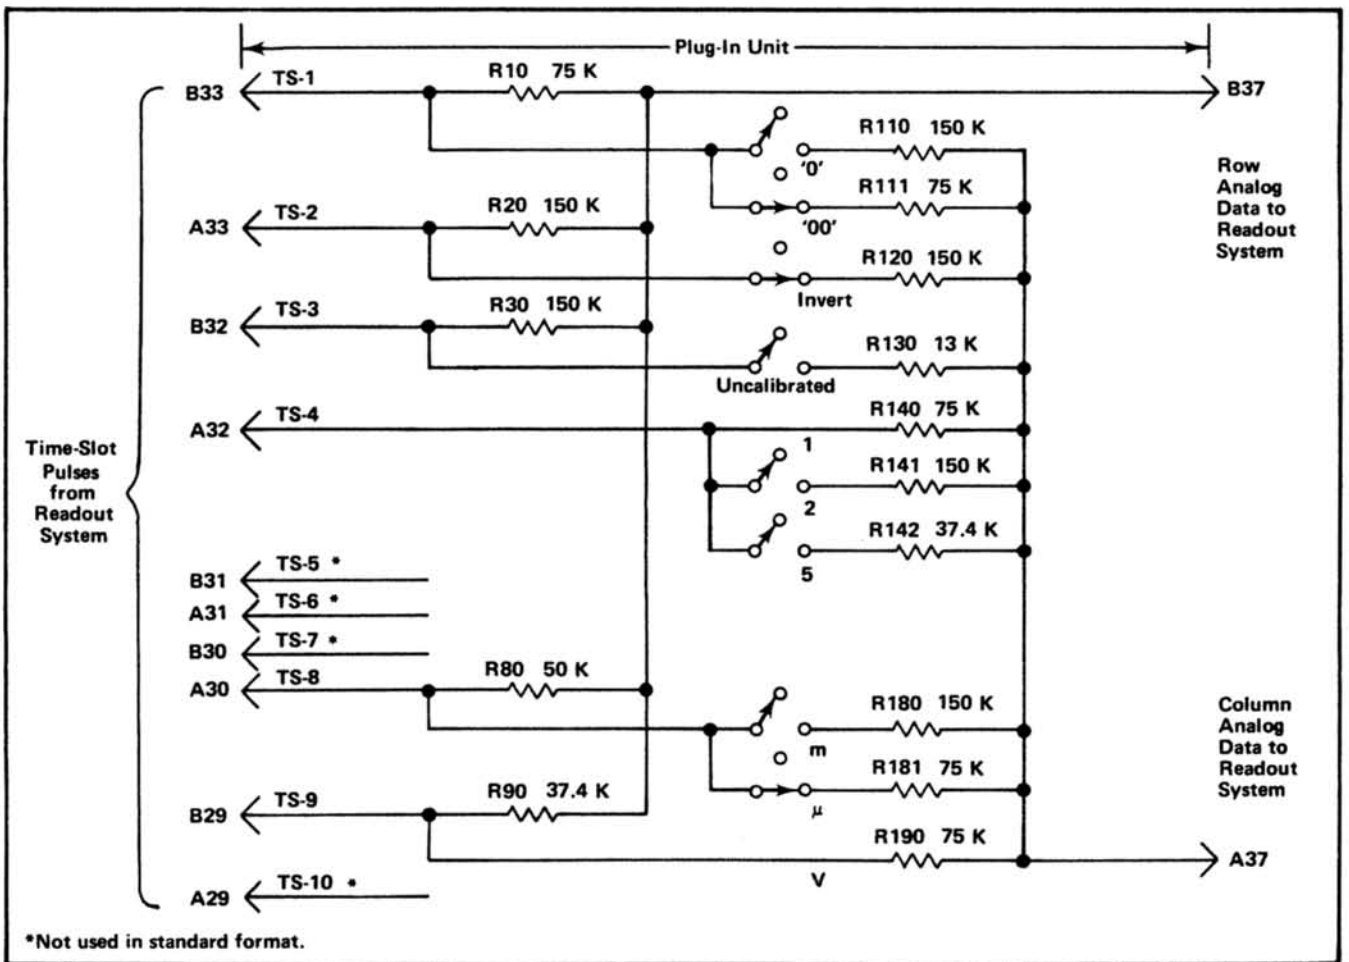

Fig. 3-45. Typical encoding scheme for voltage-sensing plug-in unit. Coding shown for deflection factor of 100 microvolts.
current levels (from zero to one milliampere in 100 microampere steps). The characters which can be selected by the encoded data are shown on the Character Selection Matrix (see Fig. 3-38). Each character requires two currents to define it; these currents are identified as the column current and the row current which correspond to the column and row of the matrix. The column and row data is encoded by resistive programming in the plug-in units. Figure 3-45 shows a typical encoding scheme for a voltage-sensing amplifier plug-in unit. Notice that the 10 time-slot (TS) pulses produced by the Time-Slot Counter stage are connected to the plug-in unit. However, time-slots 5, 6, 7, and 10 are not used by the plug-in unit to encode data when using the Standard Readout Format (see Table 3-2 for Standard Readout Format). The amplitude of the time-slot pulses is exactly  $-15$  volts as determined by the Timer stage. Therefore, the resultant output current from the plug-in units can be accurately controlled by the programming resistors in the plug-in units.
For example, in Fig. 3-45 resistors R10 through R90 control the row analog data which is connected back to the Readout System. These resistors are of fixed value and define the format in which the information will be presented by the Readout System. Fig. 3-46A shows an idealized output current waveform of row analog data which results from the 10 time-slot pulses. Each of the steps of current shown in these waveforms corresponds to 100 microamperes of current. The row numbers on the left-hand side of the waveform correspond to the rows in the Character Selection Matrix shown in Figure 3-38. The row analog data is connected back to the Readout System via terminal B37 of the plug-in interface.
The Column analog data is defined by resistors R110 through R190. The program resistors are connected to the time-slot lines by switch closures to encode the desired data. The data as encoded by the circuit shown in Fig. 3-45 indicates a 100 microvolt sensitivity with the display inverted and calibrated vertical deflection factors. This results in the idealized output current waveforms shown in Fig. 3-46B at the column analog data output, terminal A37 of the plug-in interface. Resistor R111, connected between time-slot 1 and the column analog data output encodes two units of current during time-slot 1. Referring to the Character Selection Matrix, two units of column current along with the two units of row current encoded by R10 (row 3) indicates that two zeros should be added to the display. Resistor R120 adds one unit of column current during time-slot 2 and along with the one unit of current from the row output, the Readout System is instructed to add an invert arrow to the display. R130 is not connected to the time-slot 3 line since the vertical deflection factors are calibrated. Therefore, there is no column current output during this time-slot and there is no display on the CRT (see Display-Skip Generator for further information). During time-slot 4, two units of column current are encoded by R140. There is no row current encoded during
The column analog data encoded by the plug-in can be modified by attenuator probes connected to the input connectors of vertical plug-in units. A special coding ring around the input connector of the plug-in unit senses the attenuation ratio of the probe (with readout-coded probes only). The probe contains a resistor which results in additional column current. For example, if a 10X attenuator probe is connected to a plug-in with the coding for 100 microvolts as shown in Fig. 3-45, an additional unit of current is added to the column analog data during time-slot 1. Since two units of current were encoded by R111 (see Fig. 3-45), this additional current results in a total of three units of column analog current during this time-slot. Referring to the Character Selection Matrix, three units of column current along with the two units of row current encoded by R10 indicates that the prefix should be reduced. Since this instruction occurs in the same time-slot which previously indicated that two zeros should be added to the display and only one instruction can be encoded during a time-slot, the zeros do not appear in the display. The CRT readout will now be reduced to 1 mV (readout program produced by plug-in same as for previous example).
Finally, memory C is interrogated during time-slot 8 to obtain information on whether the prefix should be reduced or left at the value which was encoded. If data has been encoded which calls for a reduction in prefix, a negative-going output level is produced at pin 7. This negative level subtracts one unit of column current from the data at the input to the Column Decoder stage. Notice on the Character Selection Matrix of Fig. 3-38 that a reduction of one column when row 4 is programmed results in a one unit reduction of the prefix. For example, with the 100  $\mu$ V program shown in Fig. 3-45, if the data received from the plug-in called for a reduction in prefix the CRT readout would be changed to 1 mV (zeros deleted by program; see Encoding the Data).